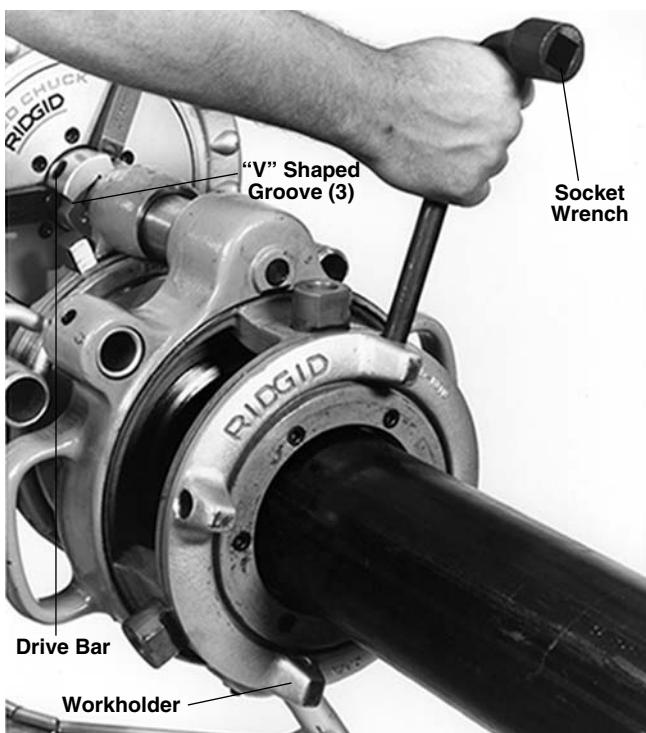

Figure 18 – Tightening Workholder on No. 141 Geared Threader (No. 161 Threader Similar)
7. Insert pipe in threader and center end of pipe in throat of dies. Tighten workholder with socket wrench (*Figure 18*).